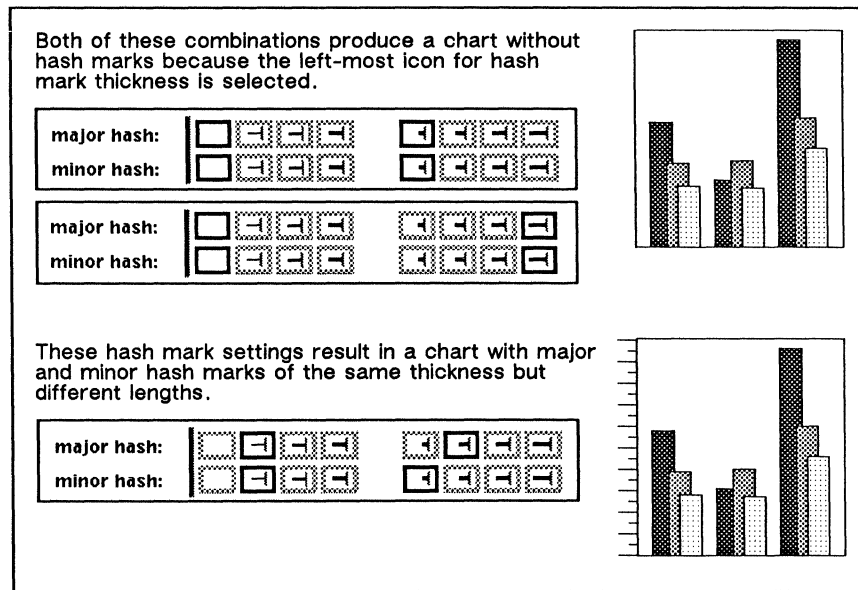

Figure 28-31. Hash marks
**Major hash/minor hash.** Hash marks are lines just outside the data that help people interpret the data. They can be turned *off* or be of various lengths and thicknesses. Figure 28-31 shows two charts with different settings. Hash marks can appear to the left of *vertical bar*, *vertical surface*, *line*, and *filled line charts*. They can appear at the bottom of *horizontal bar*, *100%*, and *horizontal surface charts*. If the left-hand icon is *on*, no hash marks will appear. The next three icons in the left-hand set control the thickness of the hash marks. The right-hand set of icons controls the length of the hash marks.